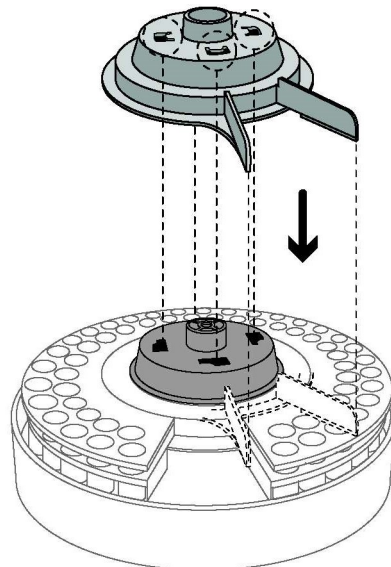

Figure 11 Place the turret hubcap onto the turret hub
- 4 Place the turret hubcap onto the turret hub. Be sure to align the slots on the turret hubcap with the slots on the turret hub as shown in Figure 11.